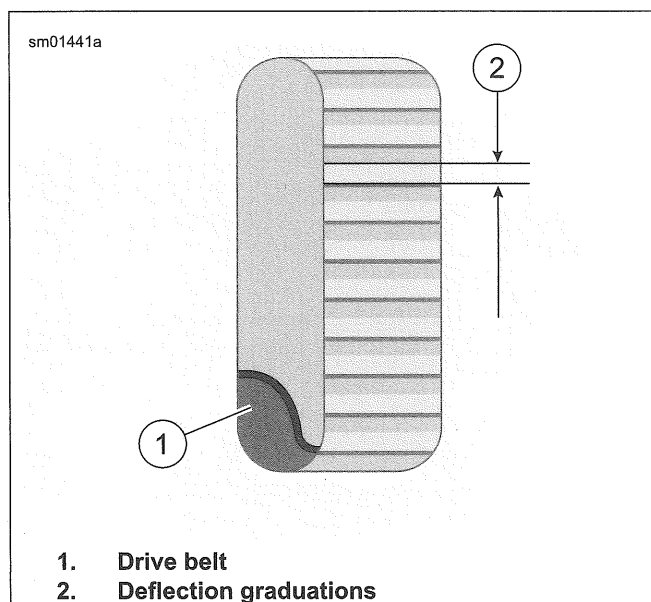
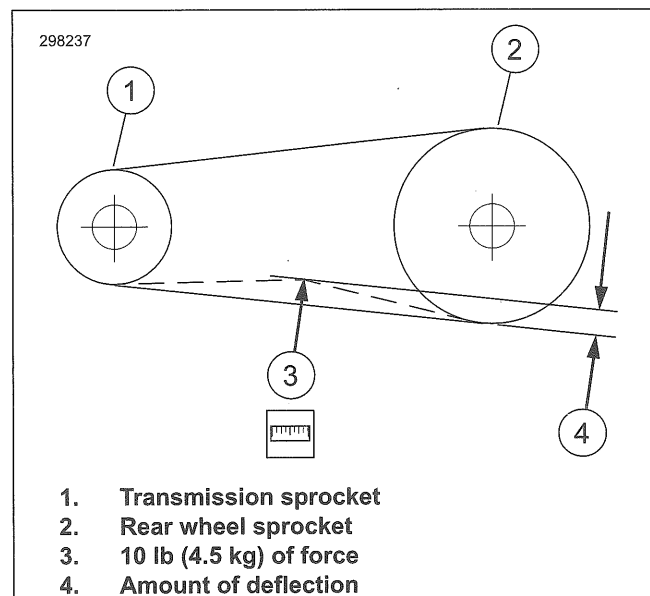

Figure 2-35. Belt Deflection Window
Figure 2-36. Checking Belt Deflection
- a. Slide O-ring (4) to zero mark (3).
- b. Fit belt cradle (2) against bottom of drive belt in line with belt deflection window. See Figure 2-35.
- c. Press upward on knob (6) until O-ring slides down to 10 lb (4.54 kg) mark (5) and hold steady.
- a. See Figure 2-36 and Figure 2-35. Measure belt deflection as viewed through belt deflection viewing window while holding gauge steady. Each deflection graduation is approximately 1/16 in (1.6 mm).